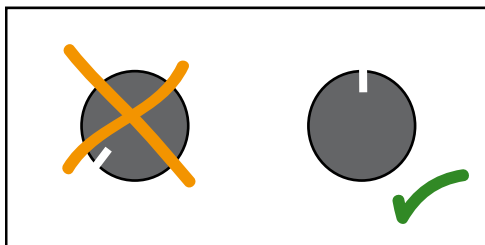

Fig. 11: Setting the power control dial
1. Turn the power control dial in the central position (see fig. 11).
4. Turn the power control dial in the central position (see fig. 11).